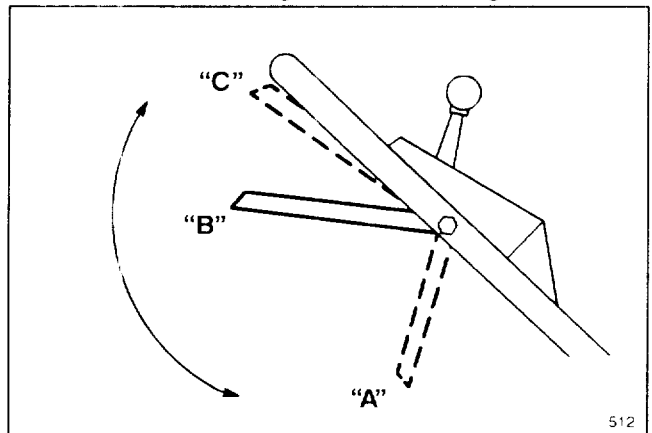

Figure 12
4. BLADE AND TRACTION OPERATION (Fig. 12) —When control bar is in position "A", slide control bar to right and raise to position "B" to engage blade. Squeeze control bar against handle to position "C" to drive. To disengage traction drive but keep blade engaged, gradually release control bar to position "B". To self-propel with blade disengaged, simply squeeze control bar against handle to position "C", without sliding control bar to right.